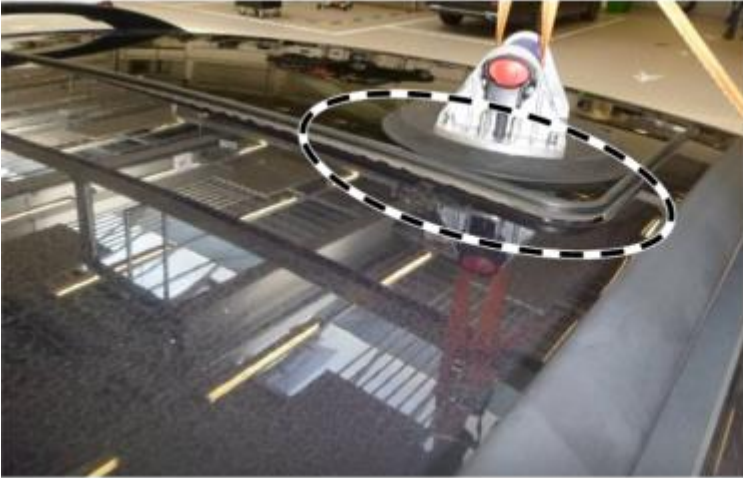

Figure 4
- i** The sliding sunroof panel is lifted out of the roof frame noticeably at the rear test positions 1 and 5 (figure 4).